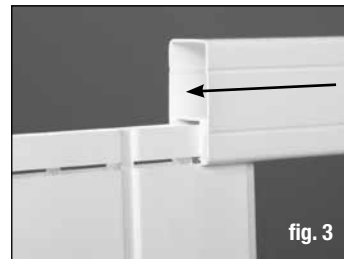

fig. 3
- At the top of the panel assembly, slide the second rail over the top of the pickets (fig. 3). The panel assembly is now complete.